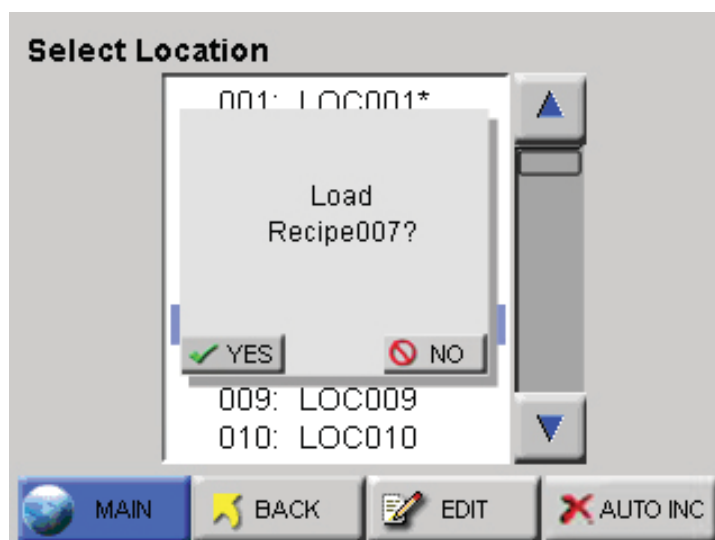

Figure 6-69 Location - Load Recipe
- When selecting a location with a recipe, the user is provided with the option of loading the recipe as shown in Figure 6-69. If the user chooses not to load the recipe, the location can still be used with the current settings.